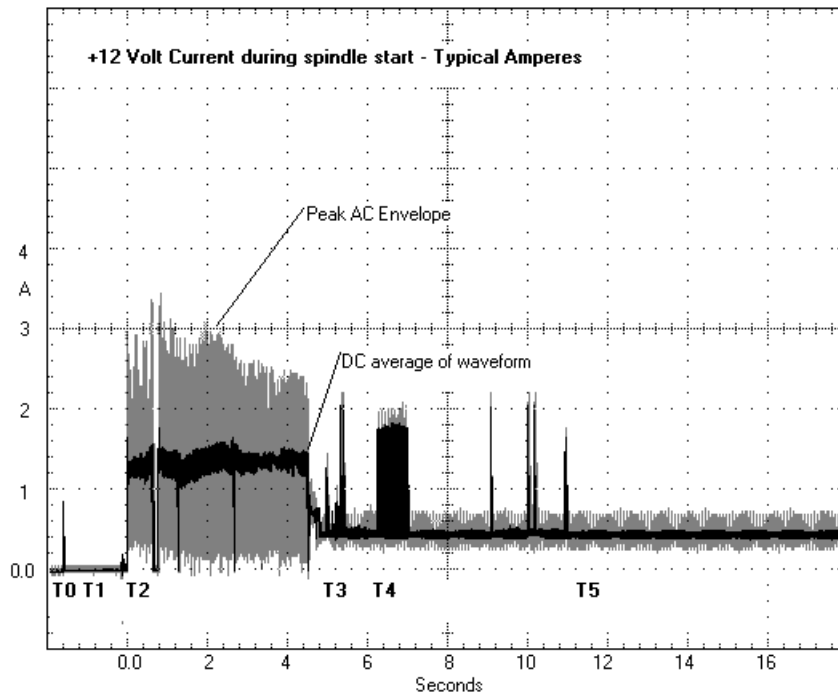
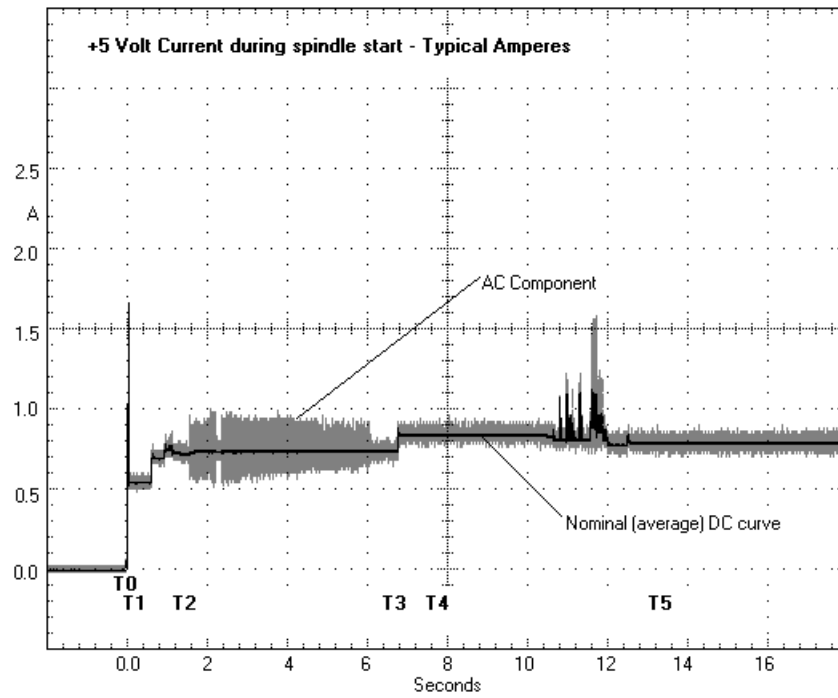

Figure 2. Typical ST3146807 drive +12 V current profile
Figure 3. Typical ST3146807 drive +5 V current profile
- [3] See +12 V current profile in Figure 2.
Figure 2, 4 and 6 identify the drive +12 V current profiles and figures 3, 5 and 7 identify the drive +5 V current profiles. The current during the various times is as shown: